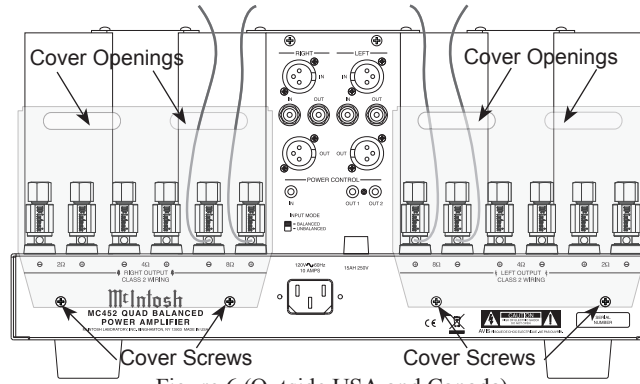

Figure 6 (Outside USA and Canada)
12. Locate the Terminal Connections Covers from the inside of the MC452 shipping carton. Insert the just prepared Loudspeaker hookup cables thru the cover openings, one cover for each channel. Refer to figure 6.
Note: The illustration in Figure 6 is connections for 8Ω (ohms) Loudspeakers.
14. Attach the Terminal Connections Covers to the MC452 Rear Panel with the previously removed Screws. Refer to figure 6.